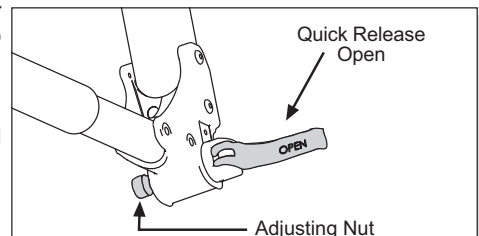
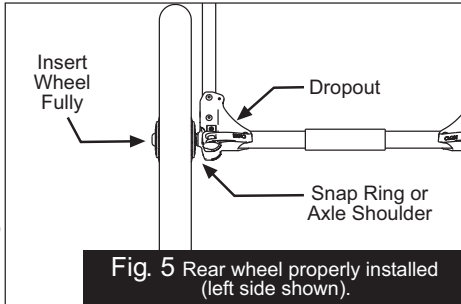
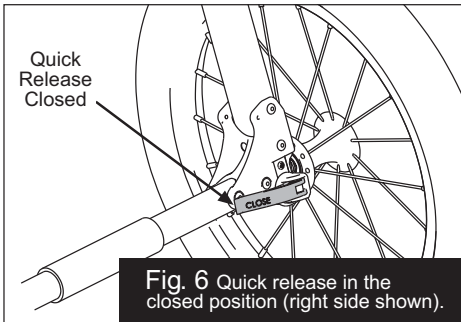

Fig. 4 Rear wheel Quick Release with lever in open position.
Fig. 5 Rear wheel properly installed (left side shown).
Fig. 6 Quick release in the closed position (right side shown).
4. REAR WHEEL: Place the rear wheel quick release lever in the open position, as shown in Fig. 4. Insert the rear wheel's stub axle into the hole in the
rear dropout. If the axle does not slide in easily, loosen the quick release adjusting nut (Fig. 4) by hand. Re-insert the axle fully into the rear dropout until the axle shoulder or snap ring on the axle comes in contact with the dropout (Fig. 5). Move the quick release lever to the closed position (Fig. 6). The word CLOSE should be clearly visible and the quick release lever should almost touch dropout. When properly adjusted, it will require considerable torque (80-105 in-lbs or 9-12 Nm) to close the lever. If you do not feel this resistance (too loose or too tight), return the quick release lever back to the open position (Fig. 4), and adjust the adjusting nut (clockwise to tighten, counterclockwise to loosen). Move the quick release lever to the closed position (Fig. 6). NOTE: Follow all instructions exactly. If you are unsure how to operate the quick release, consult your dealer or contact BOB.